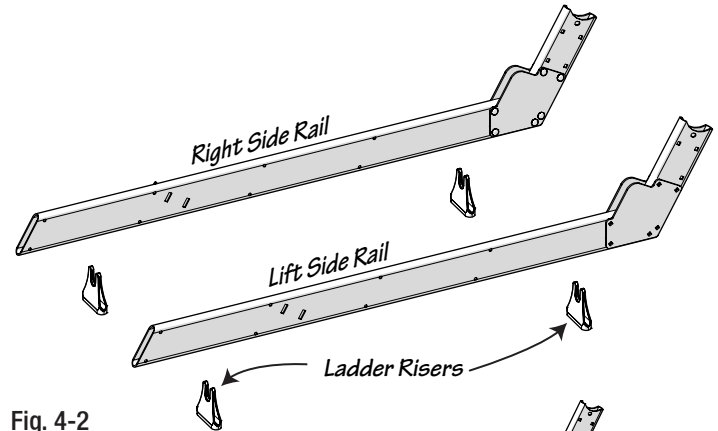

Fig. 4-2
- Working on a solid surface, lay out the ladder risers, left and right side rails as shown in Fig. 4-2.